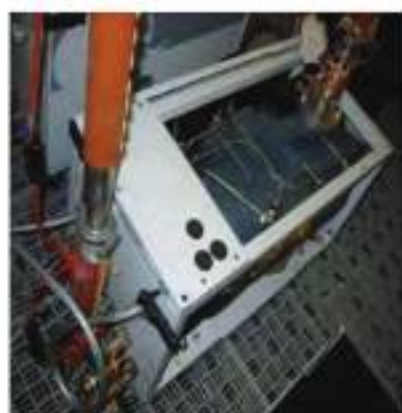

Fig. 27 Rotary vacuum pump in operation
- Rotary vane vacuum pumps are highly used in pharmaceutical facilities and account for 5 to 10 percent of facilities consumption. However recent advances in vacuum pumps technology have improved efficiency of vacuum pump by 50-60 percent and thus can reduce pump energy by 50%-90 %.(Fig. 27)